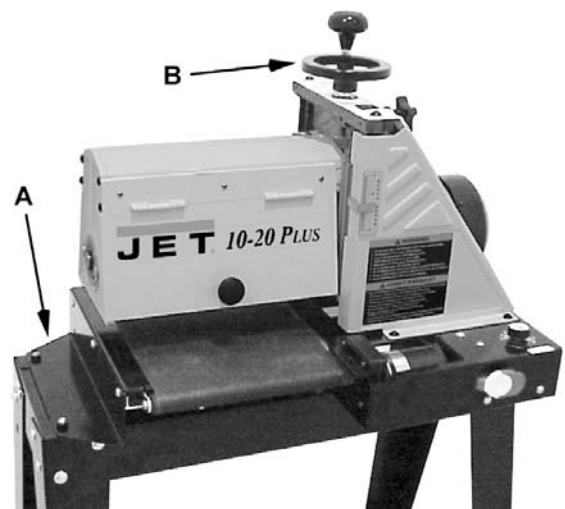

Figure 1
Attach the handwheel (B, Fig. 1) to the height adjustment screw and tighten with a 1/8" hex wrench.
1. If you purchased the optional *10-20 Stand* (A, Fig. 1), assemble it as described in the manual included with the stand.